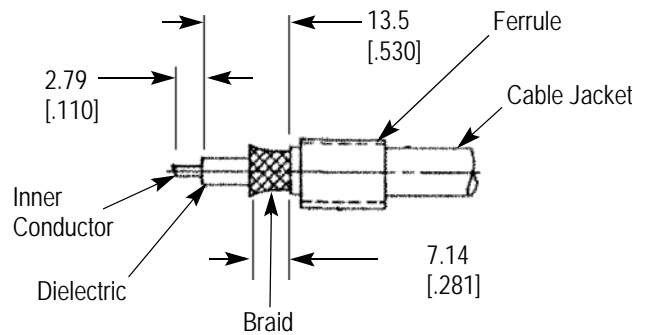

Figure 3
2.1. Preparing the Coaxial Cable End (Figure 3)
- Trim the outer conductor to length, as shown in Figure 3.
- Trim the dielectric to length, as shown in Figure 3.
- Trim the inner conductor to length, as shown in Figure 3.